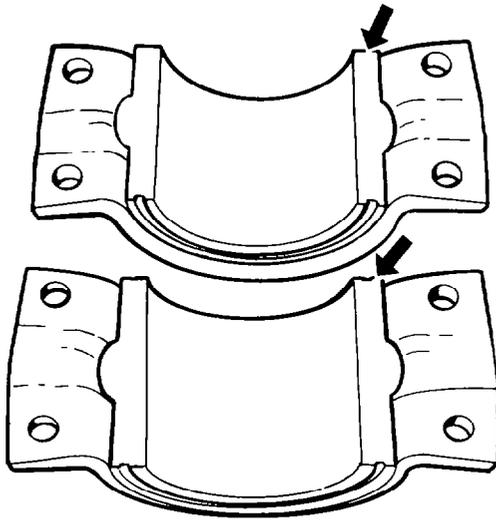

Figure 120 Trunnion Shells and Rubber Bushes
- e. Remove the bolts securing the centre trunnion shells to the trunnion and chassis cross member; detach the shells and remove the rubber bushes (see Fig 120); replace the bushes if necessary.